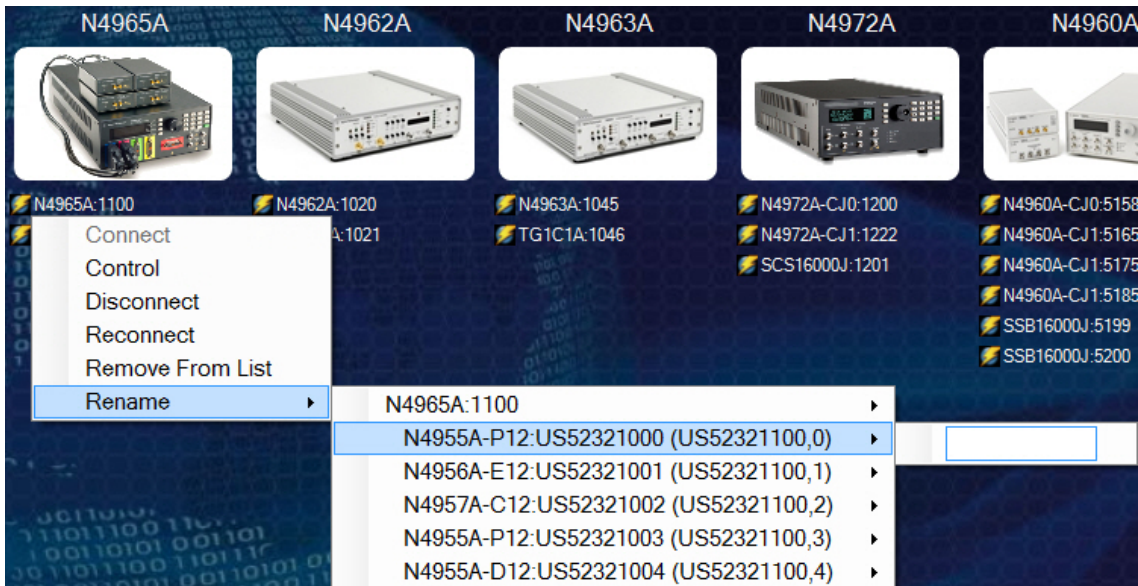

Figure 27. Renaming an instrument
1. Right-click on the instrument name/serial number located below the image of the instrument and then position the mouse pointer over **Rename** then over the instrument name to change as shown in Figure 27.